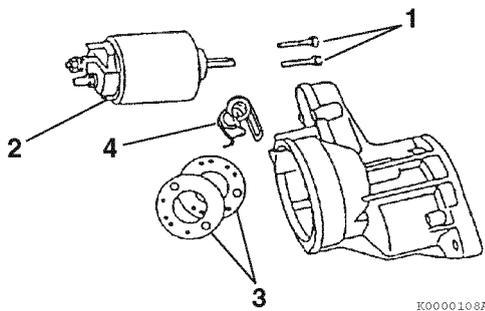

Figure 11-7
- Remove the two M6 bolts (1, Figure 11-7) retaining the magnetic switch assembly (2, Figure 11-7) to the gear housing. Remove the magnetic switch assembly, dust cover(s) (3, Figure 11-7) and torsion spring (4, Figure 11-7) from the gear housing.